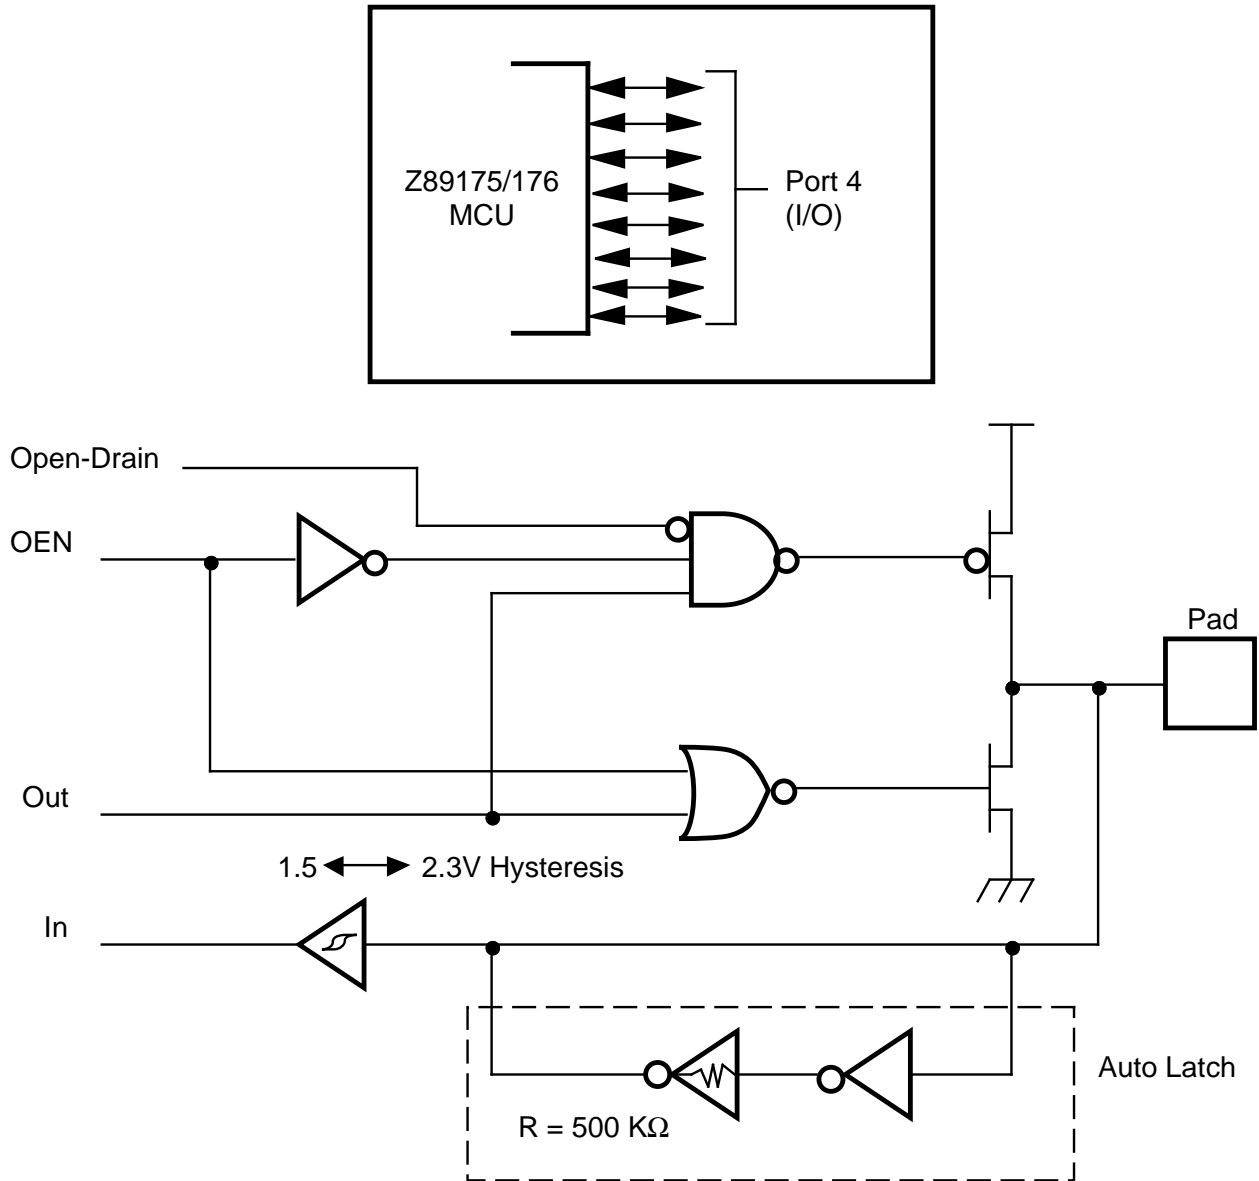

Figure 15. Port 4 Configuration
**Port 4** (P47-P40). Port 4 is an 8-bit, bidirectional, CMOS compatible I/O port (Figure 15). These eight I/O lines are configured under software control independently as inputs or outputs. Port 4 is always available for I/O operation. The input buffers are Schmitt-triggered. Bits programmed as outputs can be globally programmed as either push-pull or open-drain.